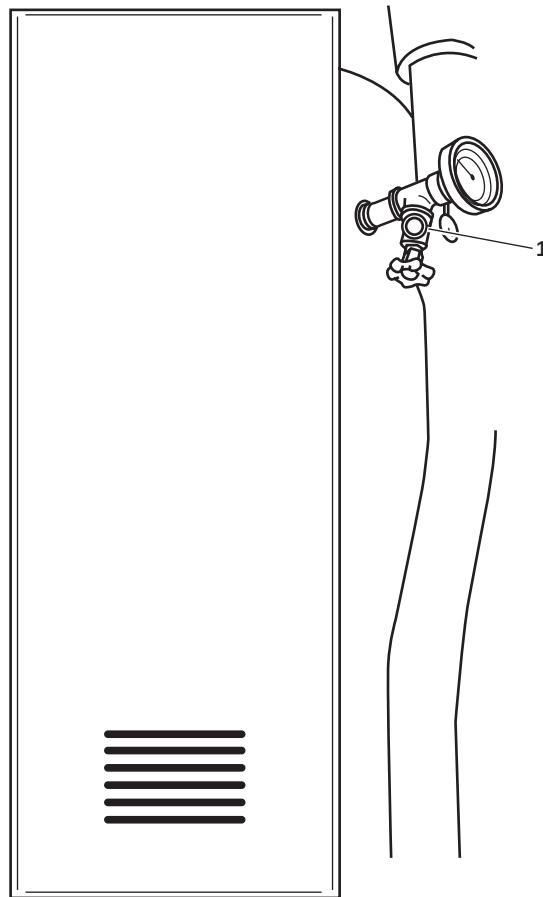

Figure 1. Water Heater Vent Valve
4. OPEN the vent valve (figure 1, item 1) on the applicable hot water heater to allow air to escape the tank while filling.
5. OPEN the inlet valve (table 1) on the applicable hot water heater and observe the vent valve (figure 1, item 1).
6. Allow the water heater tank to fill until a solid stream of water flows from the vent valve (figure 1, item 1).
7. CLOSE the vent valve (figure 1, item 1).
8. OPEN the applicable water heater outlet and recirculating hot water valves (table 1). Listen for any air that may pass through the hot water recirculating pump. Purge any air in the hot water piping by cycling the hot water tank vent valves (figure 1, item 1). Air may also be purged by OPENING a hot water valve in the heads or the galley.